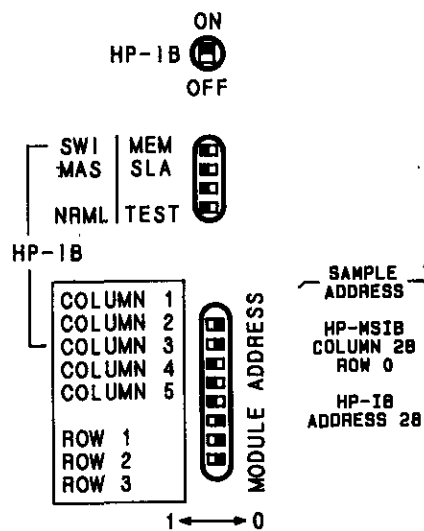

Figure 2-5. HP 70900A LO Address Switch
Figure 2-5 is an illustration of address switches found on an HP 70900A Local Oscillator (LO).